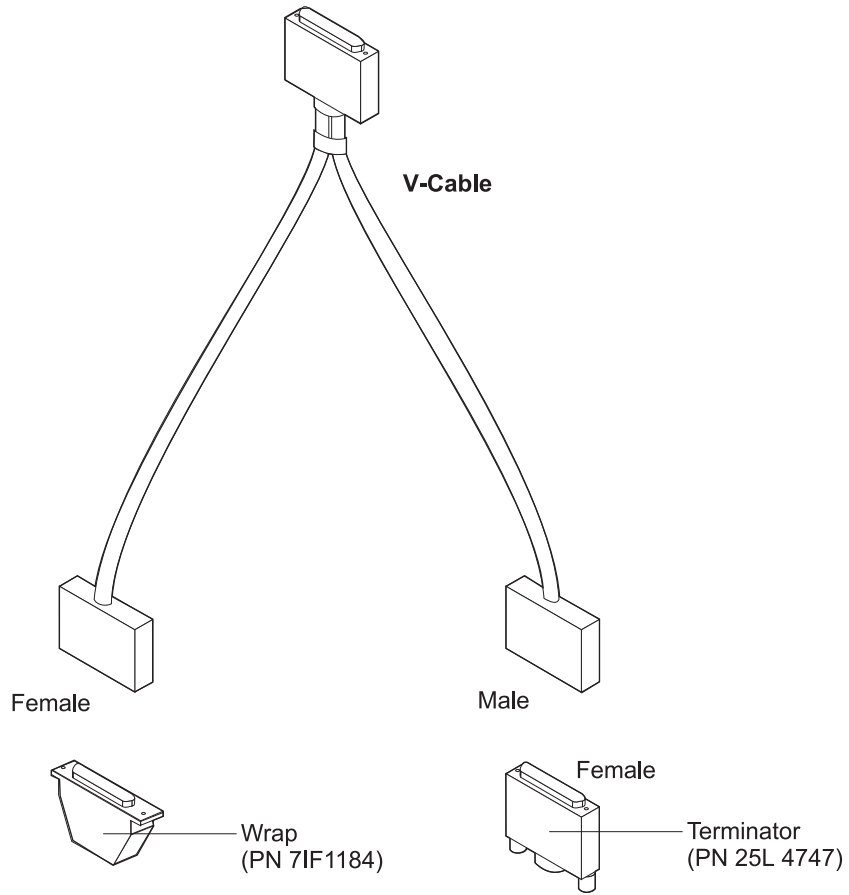

Figure 3-6. V-cable Wrap Test Connections
2. V-cable, see Figure 3-6 on page 3-10